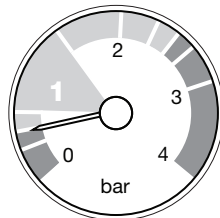

Fig. 2
4. The minimum pressure for correct operation is 0.5. If the pressure falls below 0.5, this may indicate a leak on the central heating system (Fig. 2). Error Code EI 19 will be shown on the display.